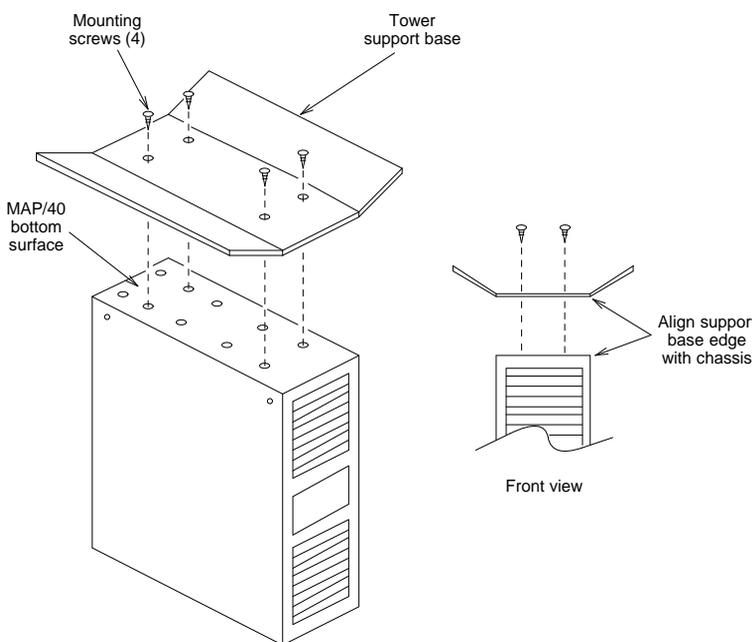

Figure 2-7. Attaching the Support Base
6. Ensure that the base is centered over the length and width of the chassis (Figure 2-7).